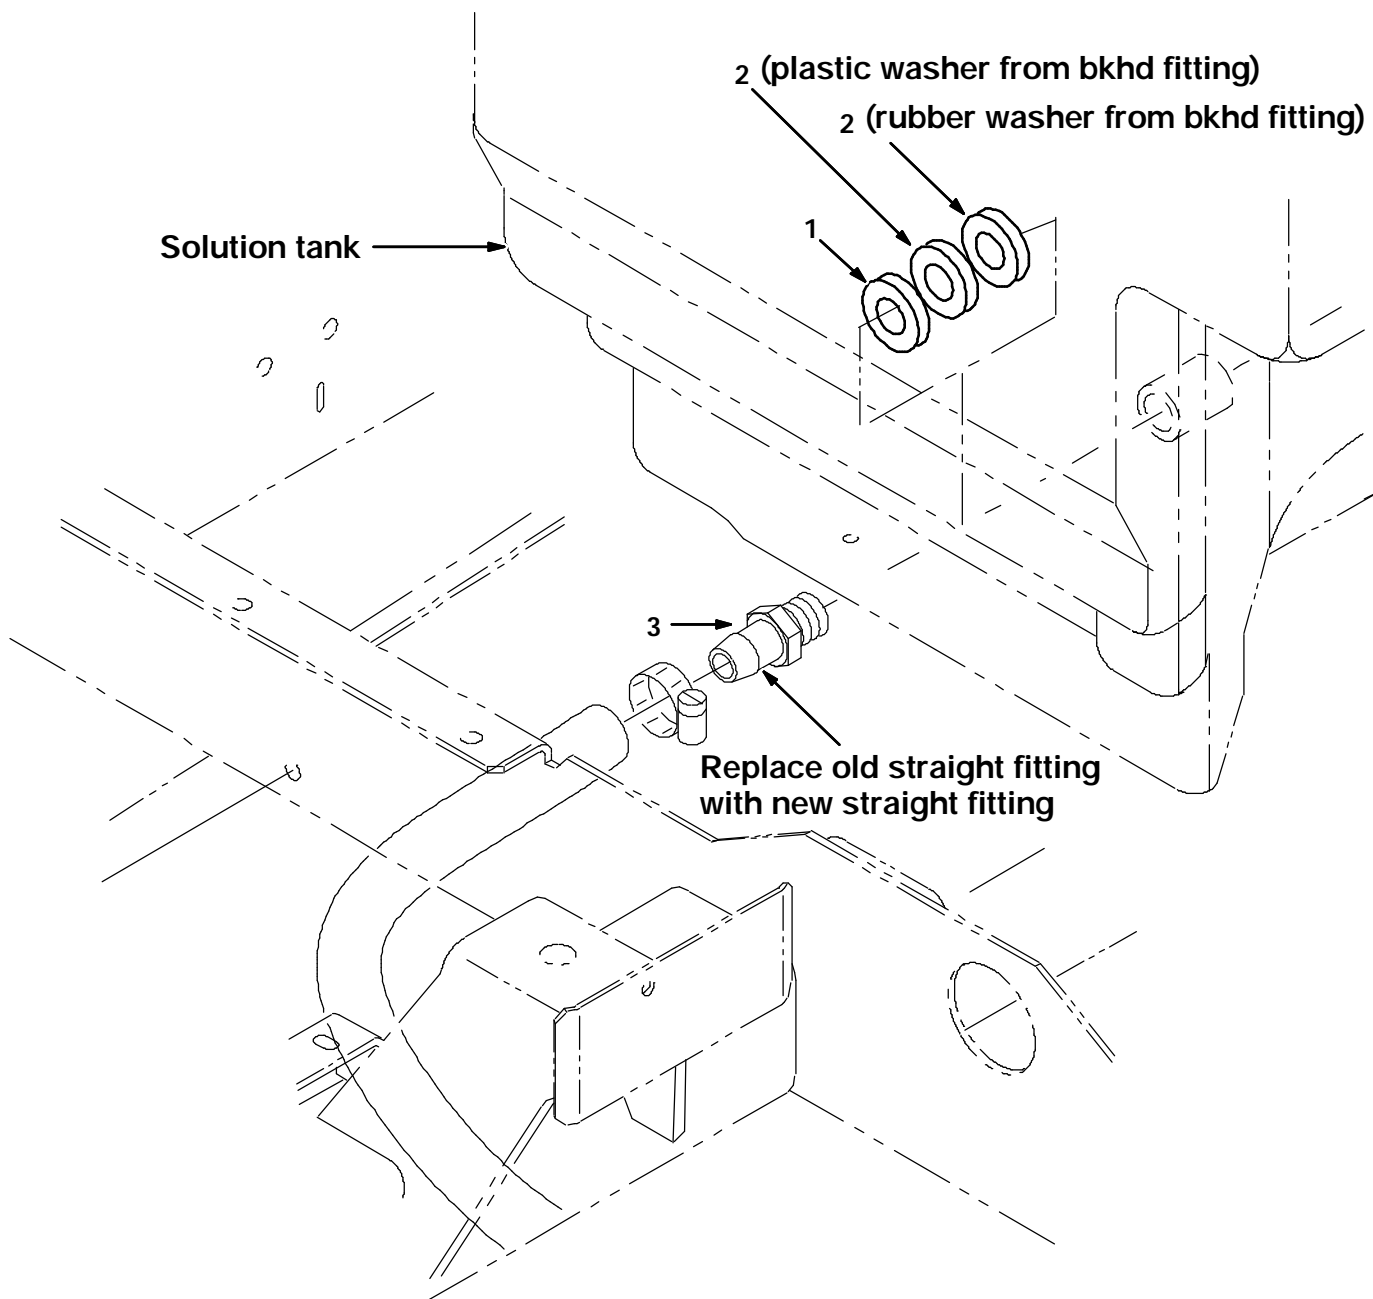

FIG. 1 - NEW STRAIGHT FITTING WASHER ASSEMBLY
(Refer to FIG. 1)
1. Disconnect vinyl braided hose from straight fitting in bottom of solution tank. Set wormdrive clamp aside. (Refer to FIG. 1)
2. Remove old straight plastic fitting from brass fitting in tank. (Refer to FIG. 1)
3. Disassemble bulkhead fitting (2), remove rubber and plastic washers from bulkhead fitting (2). Discard bulkhead fitting (2).
4. Connect new straight fitting (3) to brass fitting in tank with new steel washer (1), and two washers taken from bulkhead fitting (2). (Refer to FIG. 1)
5. Reconnect braided vinyl hose to new straight fitting (3) with set aside wormdrive clamp. (Refer to FIG. 1)